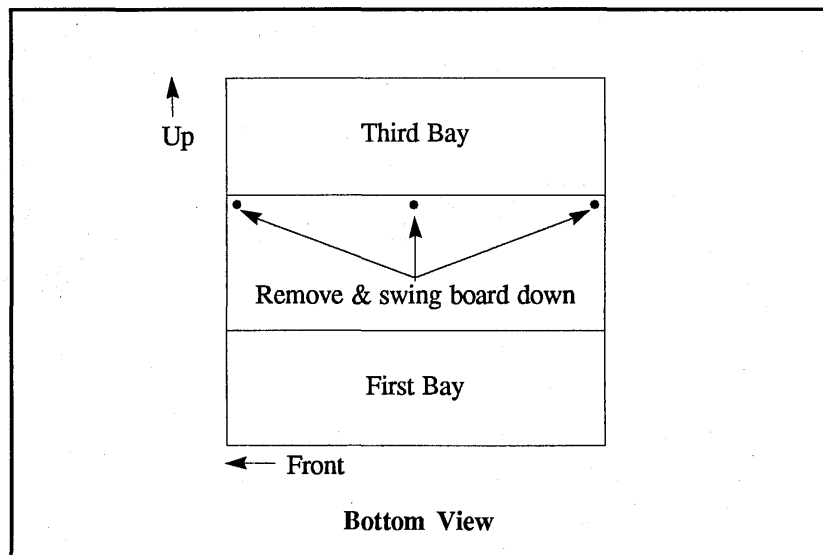

Figure 10-1
- #3. Remove the three securing screws from the top of the Digital board (Figure 10-1) and carefully swing the board down.